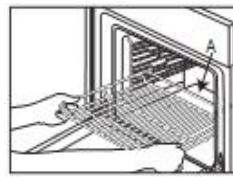
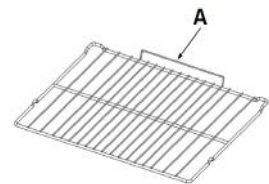

Fig. 1a
Fig. 1B
1. insert the wire shelf horizontally, with the raised part "a" upwards (Fig. 1A, Fig. 1B)